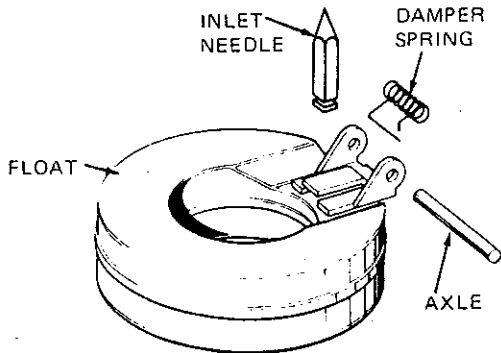

Figure 14
- d. A float damper spring is used on some outboard carburetors. (See Figure 14.) The carburetor does not have an inlet needle clip. The damper spring stabilizes the float and prevents unnecessary bouncing when the engine is operated in rough water.